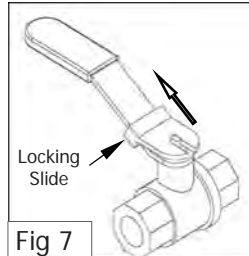

Fig 7
- a. Lift locking slide on valve handle (Fig 7) to release the valve.
- c. When valve is closed, locking slide will drop down over locking valve to prevent accidental opening of the valve (See Fig.7).